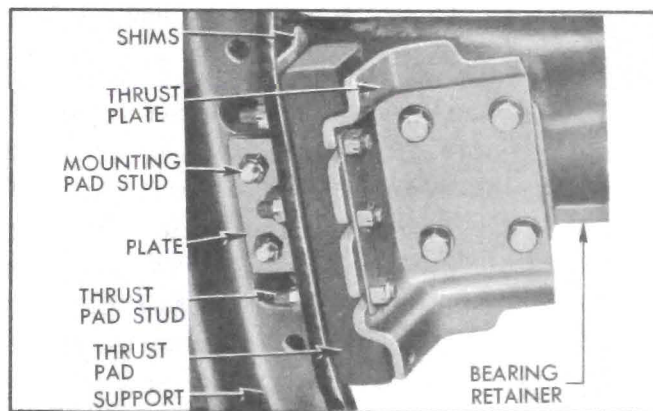

Figure 2-41—Transmission Mounting—Bottom View
5. Tighten thrust pad to thrust plate stud nuts (rear) and loosen thrust pad to transmission support stud nuts (front). Remove shims located between thrust pad and transmission support. See figure 2-41.